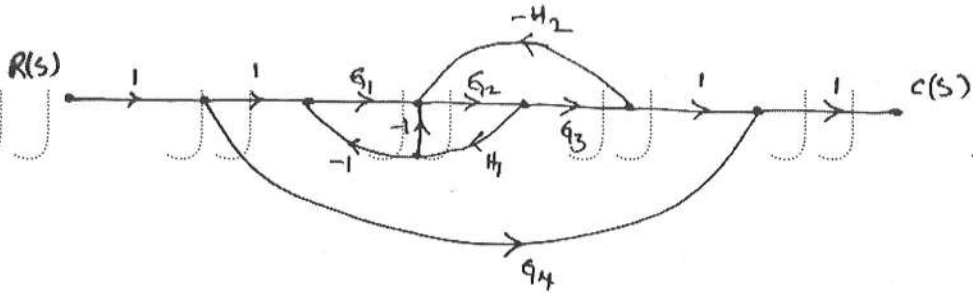

Figure: 2
b) Find the overall gain $\frac{C(s)}{R(s)}$ for the signal flow graph shown in figure 2. [4+6]